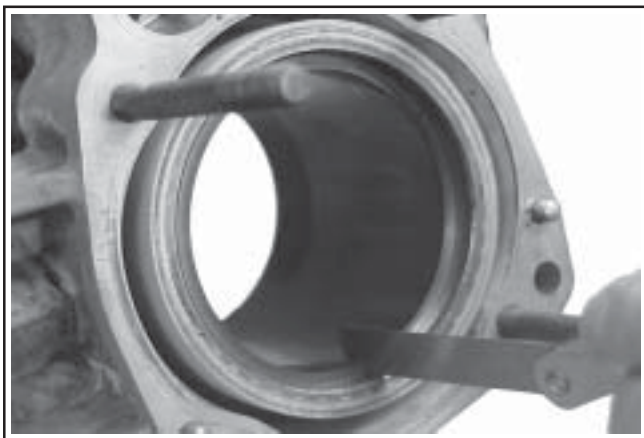

Figure 10-9. Measuring Piston Ring End Gap.
4. Before installing the new rings on the piston, place the top two rings, each in turn, in its running area in cylinder bore and check end gap (see Figure 10-9) against the specifications listed in Section 1.